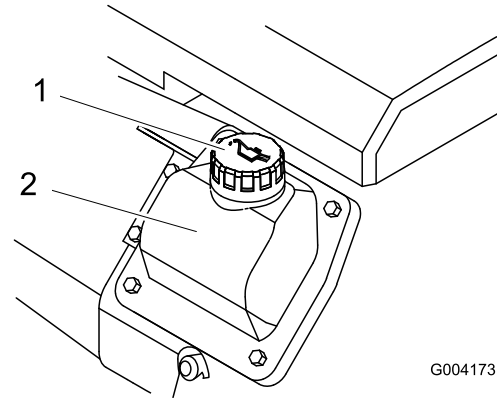

Figure 14
8. If the oil level is low, clean around the oil filler cap and remove the cap (Figure 14).